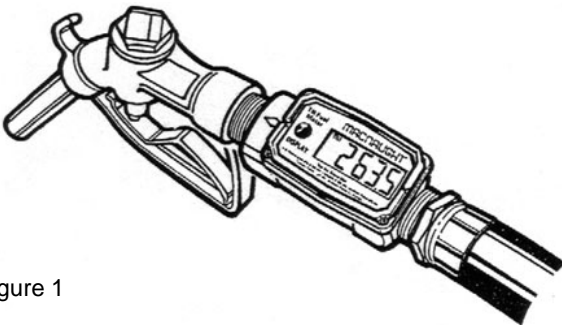

Figure 1
- 1) For pump hose end applications, use the appropriate fittings and install the meter as shown in figure 1. Make sure that the arrow on the meter port outlet points in the direction of the fluid flow.